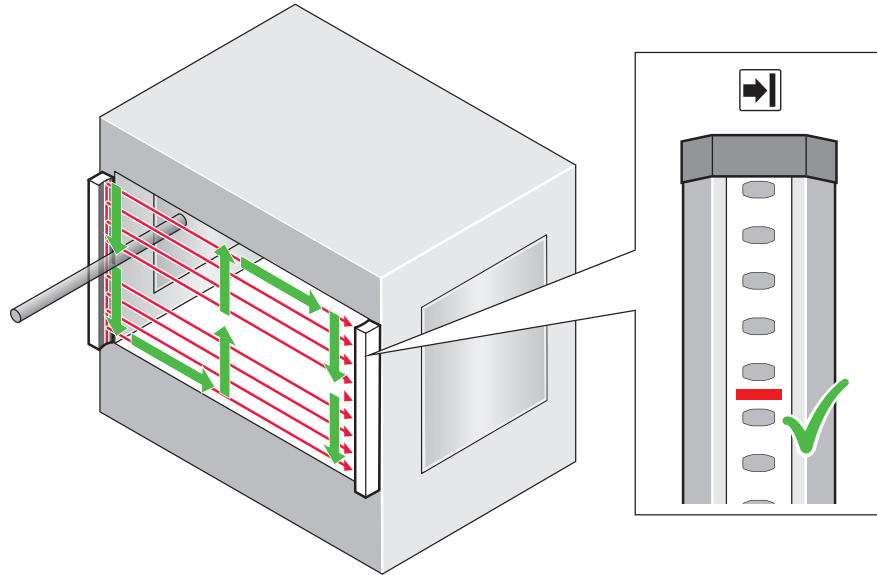

Figure 29: Test rod check: Step 1
1. Move the test rod slowly through the area to be protected (e.g., machine opening), as indicated by the arrow, see figure 29.